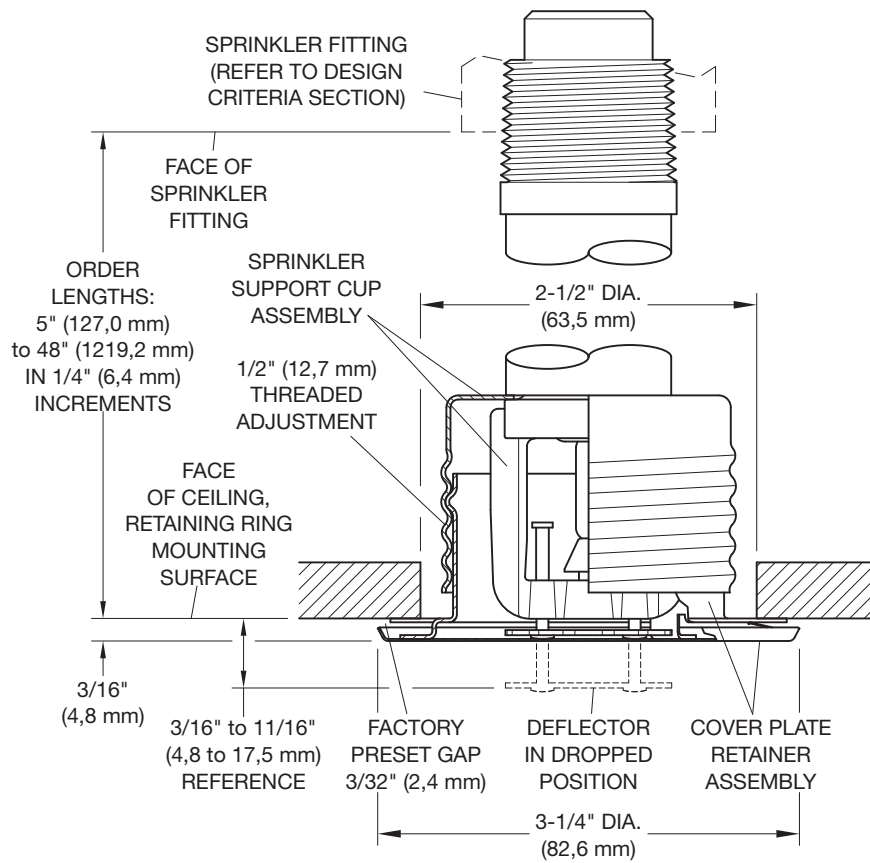

FIGURE 2
Step 5. Screw on the Cover Plate/Retainer Assembly until the Retainer (Figure 2) contacts the ceiling. Do not continue to screw on the Cover Plate/Retainer Assembly such that it lifts a ceiling panel out of its normal position. If the Cover Plate/Retainer Assembly cannot be engaged with the Support Cup or the Cover Plate/Retainer Assembly cannot be engaged sufficiently to contact the ceiling, reposition the Sprinkler Fitting.
When properly installed, there is a nominal 3/16 inch (4,8 mm) air gap between the lip of the Cover Plate and the ceiling, as shown in Figure 2. This air gap is necessary for proper operation of the sprinkler. If the ceiling is to be repainted after the installation of the Sprinkler, care must be exercised to ensure that the new paint does NOT seal off any of the air gap.